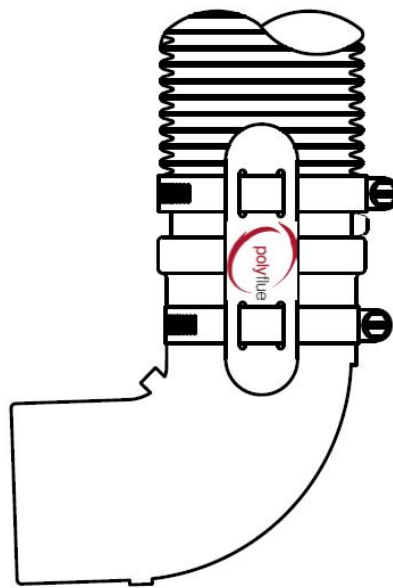

Figure 22
Connecting FROM rigid pipe, elbows, and tees in the direction of flue gases (Fig 22 & 23).
4. Secure male end of flex (Fig 22, 23) to base rigid pipe or fitting using a Locking Band (LB) or the Wall Strap (WS). If using a Wall Strap, wait to lock together until step 5 is complete and total system length is met, as necessary.